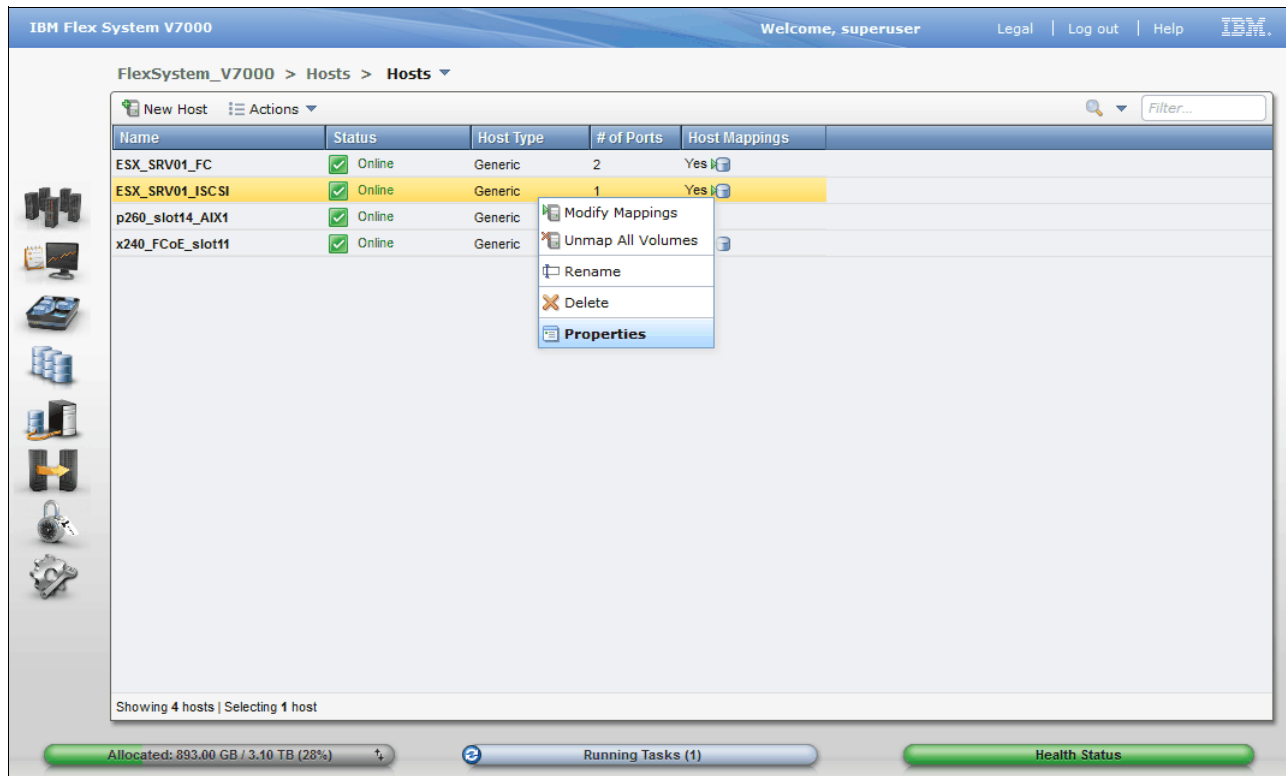

Figure 12-48 Select iSCSI ESX host properties
1. Right-click your VMware ESX Fibre iSCSI host in the All Hosts view (Figure 12-48) and select **Properties**.